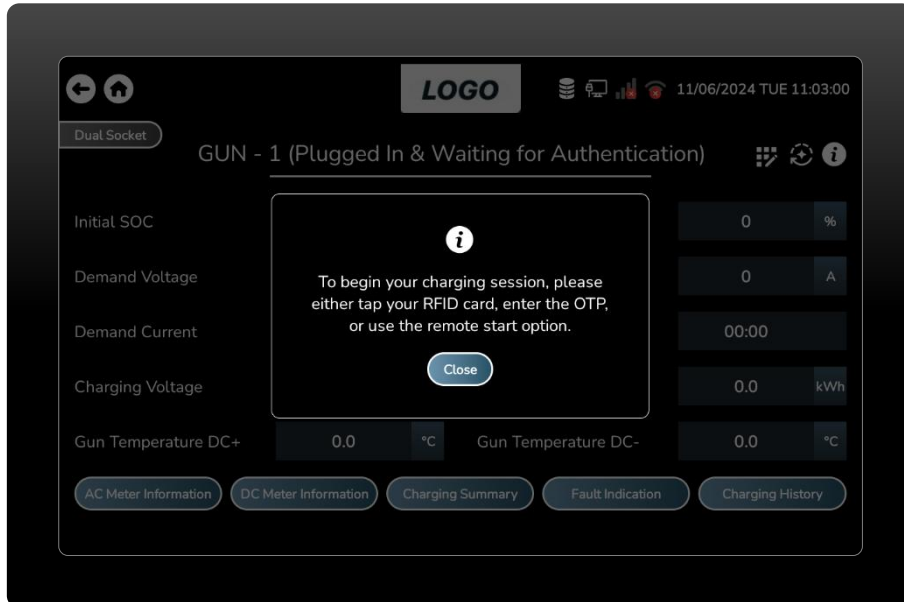

Figure 90 User Authentication Pop-Up Onscreen.
- To start the charging process, the user requires authorisation by tapping their RFID card, entering the OTP, or selecting the remote start option. (Figure 90)